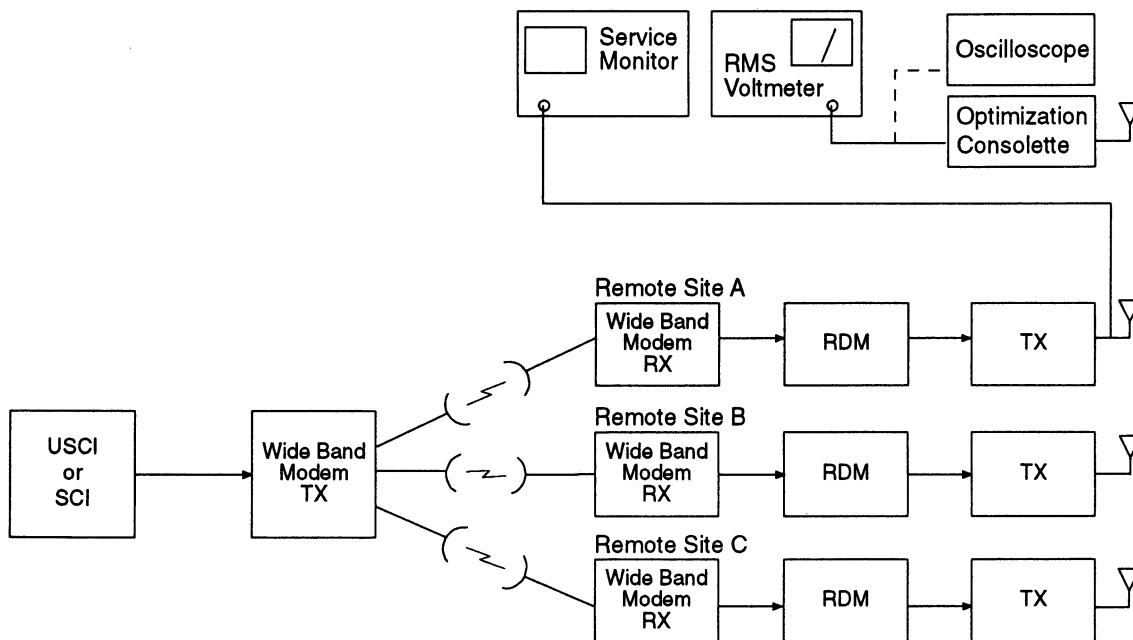

Figure 31. Two-Level Deviation Adjustment Equipment Set Up
- Step 2. Refer to Figure 31 and set up your equipment to adjust coded deviation in a two-level system.